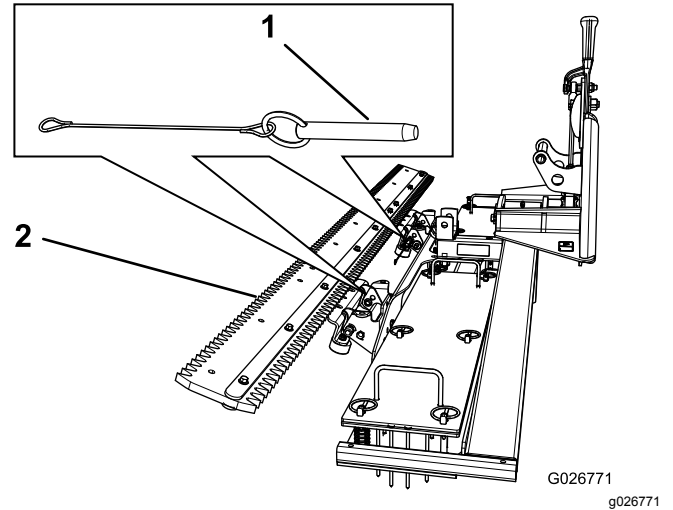

Figure 11
1. Remove the 2 clevis pins (Figure 11).
2. Tilt the groomer upward, and insert the clevis pins to secure it into that position (Figure 11).